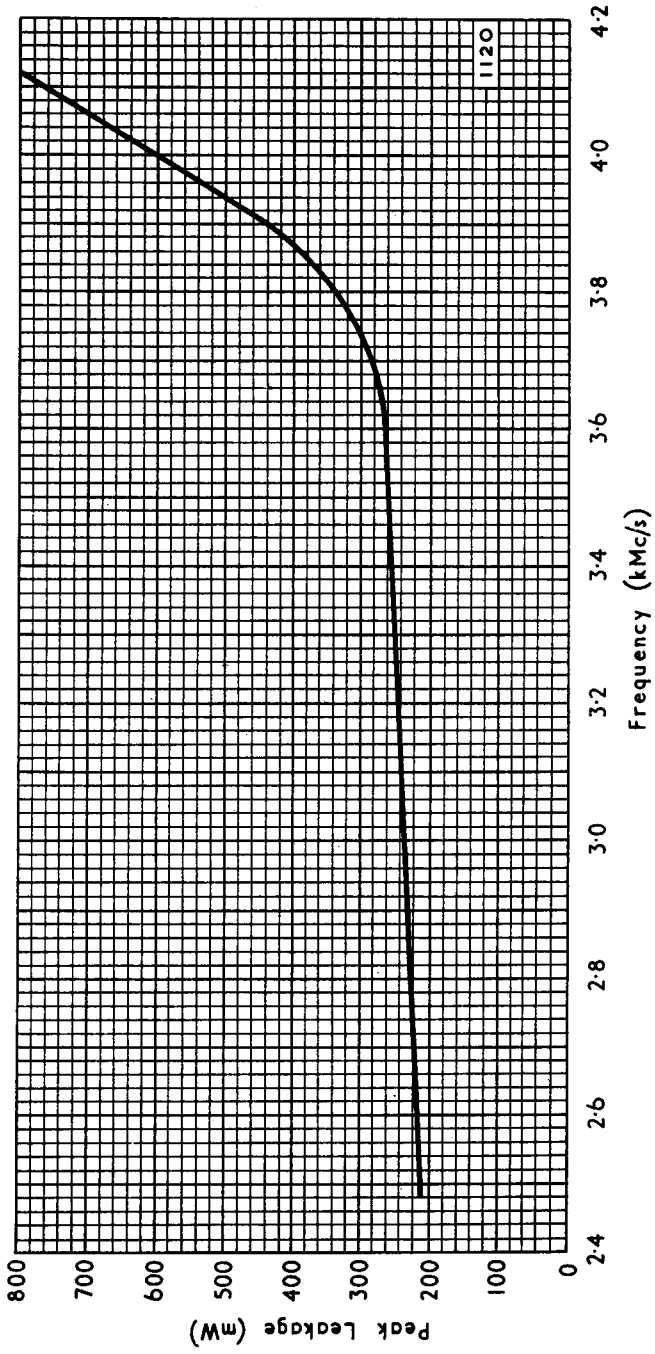

Fig. 4.
**High Power (Figs. 4, 5 and 6)**